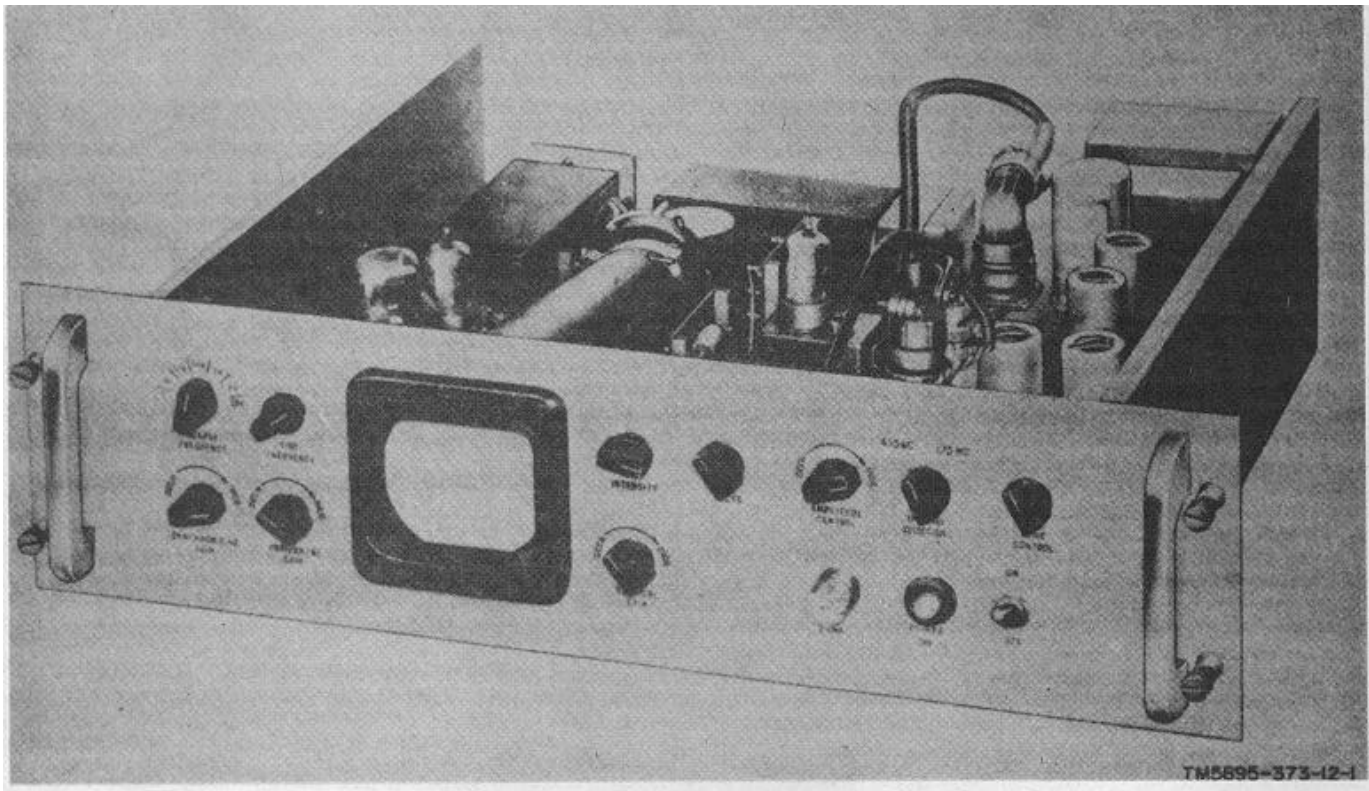

Figure 3. Converter, Frequency, Electronic CV-1716/GR.
- (1) The recorder-reproducer set consists of two frequency converter units, a recorder-reproducer unit, a reproducer unit, and a cabinet in which the units are mounted. Also, 2 coaxial cables, 2 audio cables, 20 tape cartridges, a binaural headset, and a magnetic tape eraser are included. Each rack mounted unit is supported by chassis brackets in the cabinet and secured with screws to the front panel. Brackets are supplied to permit the cabinet to be mounted on a wall. The recorder-reproducer set may also be mounted on the floor or on a bench.
- (2) The input and output cables are connected at the rear of the cabinet. A power distribution strip, located at the rear of the cabinet, furnishes power to each unit.
b. Description of Converter, Frequency, Electronic CV-1716/GR (figure 3).
- (1) The frequency converter is contained in a drawer-type chassis with a front panel affixed to the chassis. The converters are mounted in the upper portion of the cabinet. Handles on the front panel permit each drawer-type chassis to be pulled out for servicing.
- (2) All operating controls are located on the front panel. An oscilloscope is included to permit monitoring the 10-kc output signal. A combined light filter and shield is provided for the oscilloscope screen to make viewing easier in locations with high light intensity.
- (3) The frequency converter is divided into two chassis assemblies which are mounted on the main chassis: converter chassis A1 and oscilloscope chassis A2.